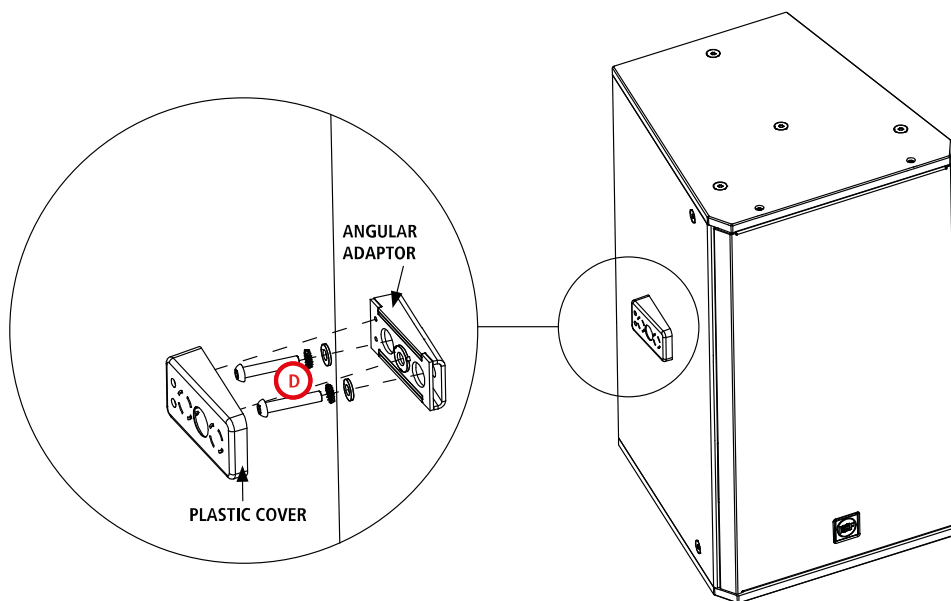

Fig. 3
1. Remove the screws on the speaker side panels, and then fix the angular adaptor on the speaker with the M8x45 screws **D**, with 1 flat washer and 1 toothed washer each (Fig. 3).
2. Place the plastic cover on the angular adaptor (Fig. 3).